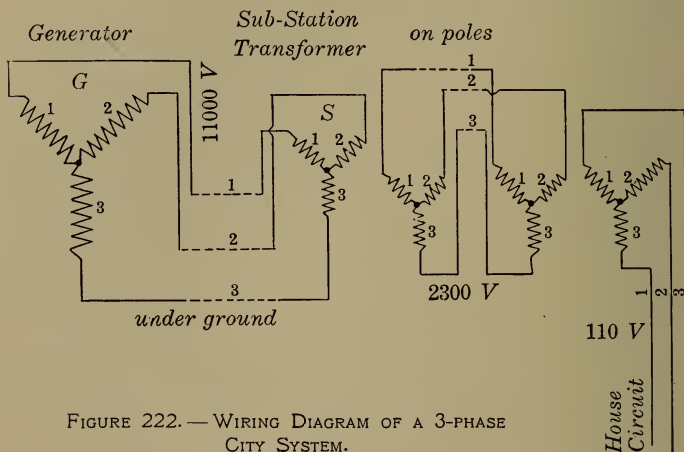

FIGURE 222.—WIRING DIAGRAM OF A 3-PHASE CITY SYSTEM.
**242. The Wiring Diagram of a City System.** — Figure 222 shows the general wiring diagram of a city using a 3-phase current. The electricity is generated at the generator (*G*) at 11,000 volts, and is sent out to the sub-stations (*S*) in conduits under ground. Here it runs through transformers and is stepped down to 2300 volts. This is carried out on poles to the locality in which it is to be used.